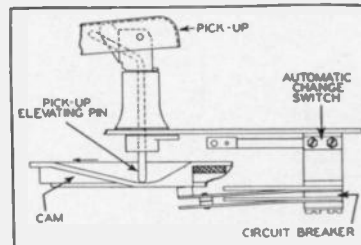

Fig. 3. Circuit-breaker switch.
6. When the cam starts to revolve, it causes several things to occur. In the first few degrees of revolution, it opens a circuit breaker switch (Fig. 3) which automatically opens the magnet circuit, thereby de-energizing it, to prevent "chattering."
7. The next few degrees of rotation causes the pickup elevating pin to ride up on an inclined section of the cam, thereby elevating the pickup and lifting the needle from the record which has just been played. (See Fig. 3.)
11. A few more degrees of revolution, and the pickup elevating pin rides down another incline, permitting the needle to settle gently on the first groove of the record. (Fig. 3.)
13. During the last few degrees of revolution, the circuit breaker switch has again been closed, as its fibre stud rides up an incline on the lower surface of the cam. (Fig. 3.) This switch must be closed at all times except when the instrument is going through a changing cycle, otherwise, it would be impossible to start a new changing cycle automatically.